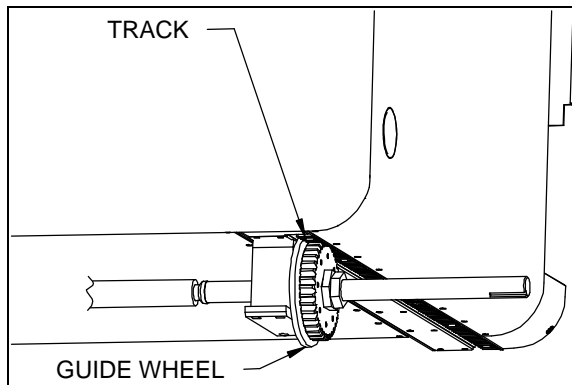

FIGURE 10 : GUIDE WHEEL TRACK
3. Carefully put the slide-out on its UHMW sliding pads and the racks on their pinions (figure 1 item 3 and 13). Slide the free pinions to center them on their racks. Also, make sure that the guide wheel is in its track (figure 10 and figure 1 item 12).